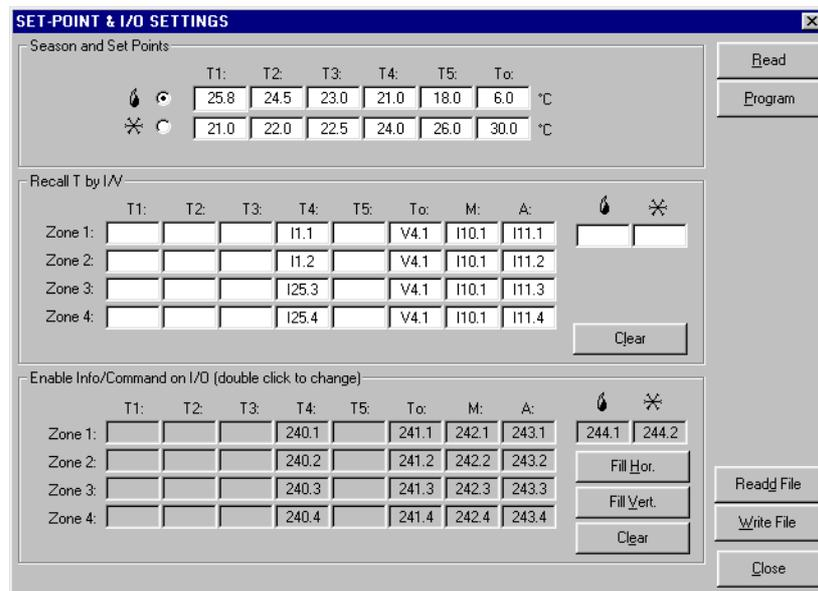

Fig.4
- Set-Point & I/O: enables the window for setting the temperature values Tx and input/output points for the special functions (remote control and monitoring of DFCL module, see in the next); Fig.4 shows an example of this window where some set points have been set both for winter and summer
As said before, the pressing of the “Set Point & I/O” button in the configuration window will enable the window shown in Fig.4. This window, in addition to the set points described before, allow setting some information useful for the remote control of DFCL module (Fig.4 shows an example) as described in the following paragraphs.
The middle section of the window shown in Fig.4 (“Recall T by I/V”) allows to specify the real or virtual **input** points which at their activation must recall a given Tx for a given zone (in the example of Fig.4, I1.1 will recall T1 on zone 1). In addition, two input points for each zone can be specified to impose, respectively, the manual and the automatic mode and two further input points to impose the winter and summer operation.
Note 3: the specified input points can be repeated for more zones; in this way the input will cause more actions. In the example in Fig.4, the point I10.1 will cause the switching to the manual mode of all zones.
The section “Enable Info/Command on I/O” (on the bottom side of the window in Fig.4) allow to force the settings as for the input point described in the previous paragraph (section “Recall T by I/V”), but in this case the forcing of the several parameter (Tx, automatic and manual mode, season) will be performed by sending a command to DFCL module following the same method when sending a command to a common digital output point. This is therefore useful to control, in a very easy way, DFCL module from a supervisor PC or from a touch screen terminal.
- as output (Ox.y), this point allow to force the related parameter (Tx or other); in the example shown in Fig.4, the writing to point O241.3 will recall To on zone 3
- as input (Ix.y), this point allow to know the current status of the related parameter (T or other); in the example of Fig.4, if the point I241.3 is ON, then To is currently active on zone 3
The buttons "Fill Hor." And "Fill Vert." in the window shown in Fig.4 allow to assign all possible information to the needed points, following a line or column arrangement respectively. The button "Clear" will remove all assignments.